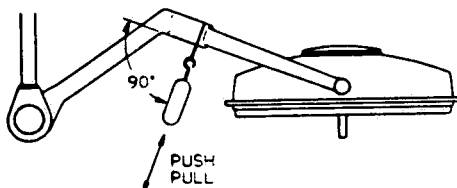

Figure 4-18. SUSPENSION ARM MOTION.
1. Attach force gauge to end of suspension arm and with lighthouse parallel to floor, measure the force required to raise and lower the lighthouse at several positions throughout the range. At all positions, force should be within five to thirteen pounds. (See Figure 4-18)